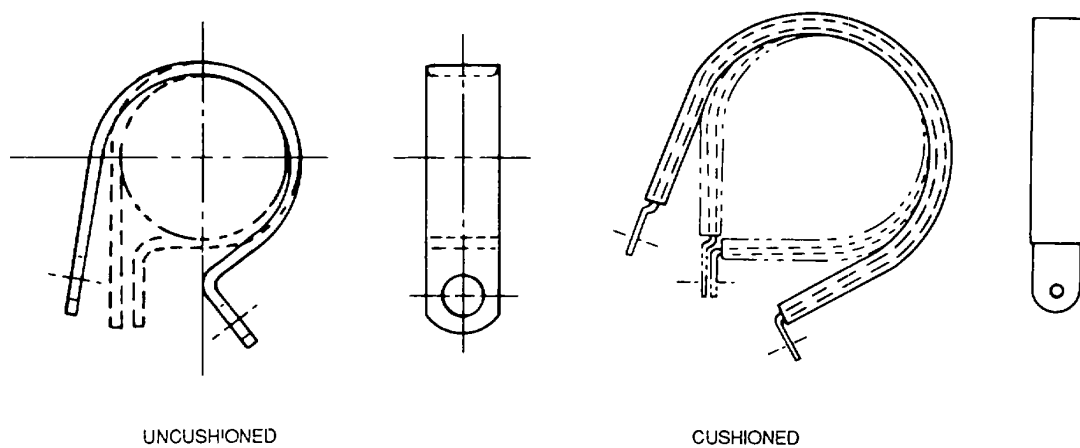

Figure 2-45. Loop-Type Support Clamp
(4) *Loop-type support clamp.* This clamp, as shown in figure 2-45, is used to support tubing, hose, and cable. It is either cushioned or not cushioned.